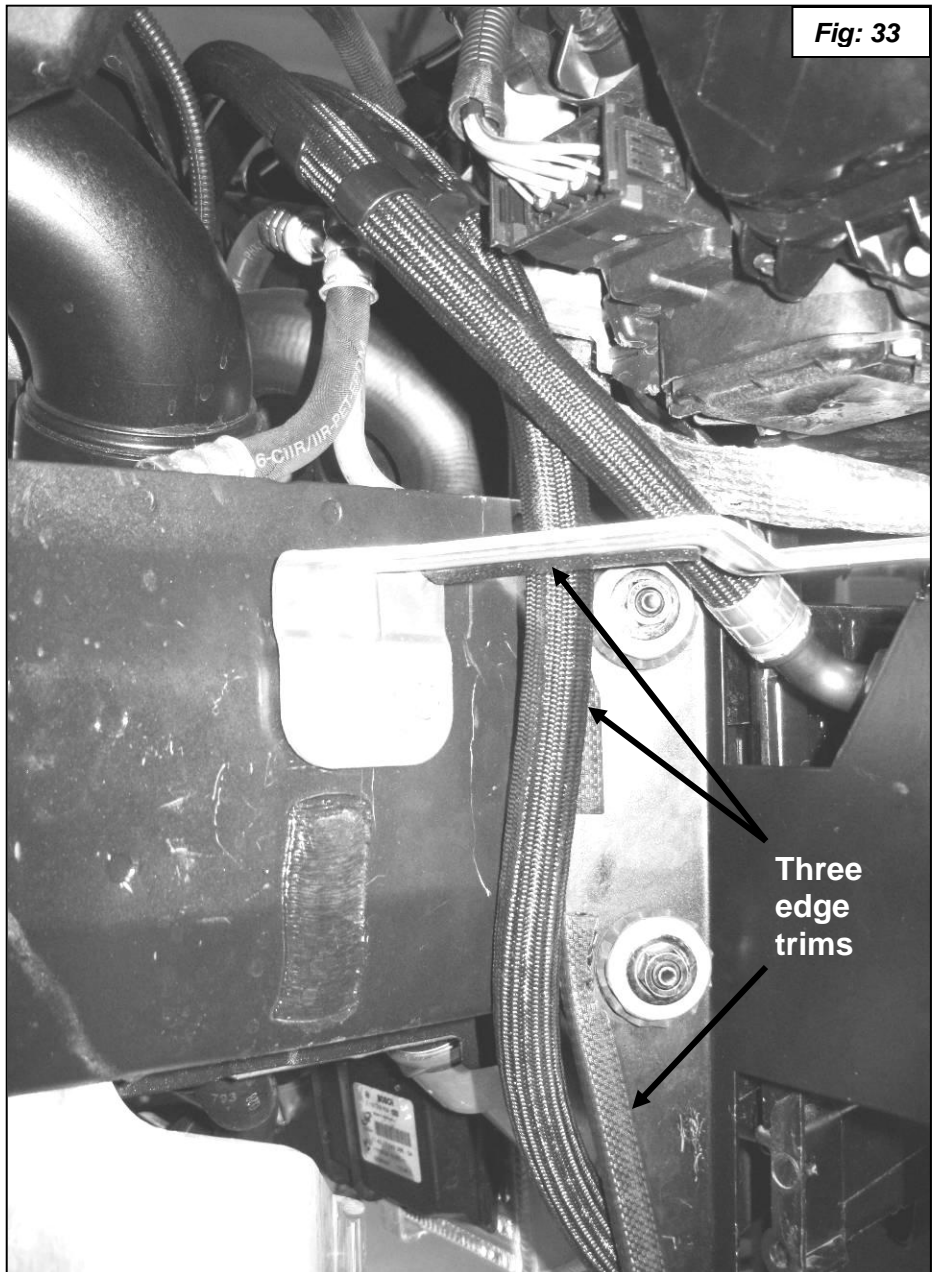

Fig: 33
33. Refer to **figure 33** to see where to install three pieces of edge trim to protect the oil lines where they would otherwise rub on sharp edges. Proceed to the next step before mounting the Cooler Assy.
34. Route the oil line as shown in **figure 33**. Attach the Oil Cooler Assembly to the car as shown previously with the two stock 8mm nuts and the 6mm bolt. Torque nuts to 20Nm (15ft-lbs.) and bolt to 8Nm (6ft-lbs.).